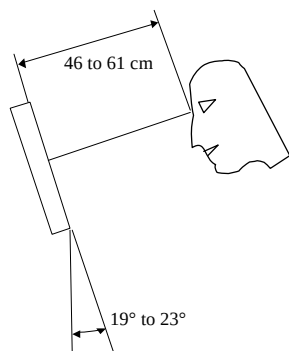
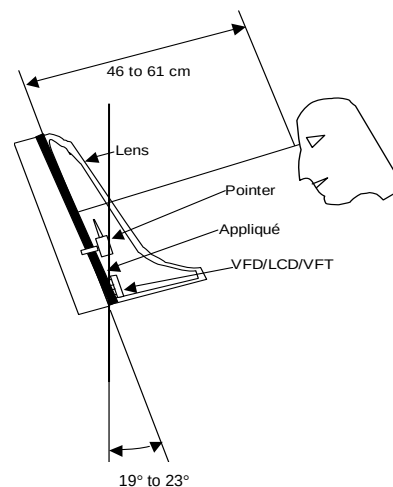

Figure 1
Figure 2
- 3.1.2.4. The surface viewing angle of the part shall be staged at an angle min 19° and max 23° from vertical to replicate in-vehicle position (Figure 1). The exception to this is for cluster assemblies which viewing set up is perpendicular to the appliqué surface (Figure 2). The part shall be viewed such that light is not reflected directly at the inspector. (Avoid light reflections)